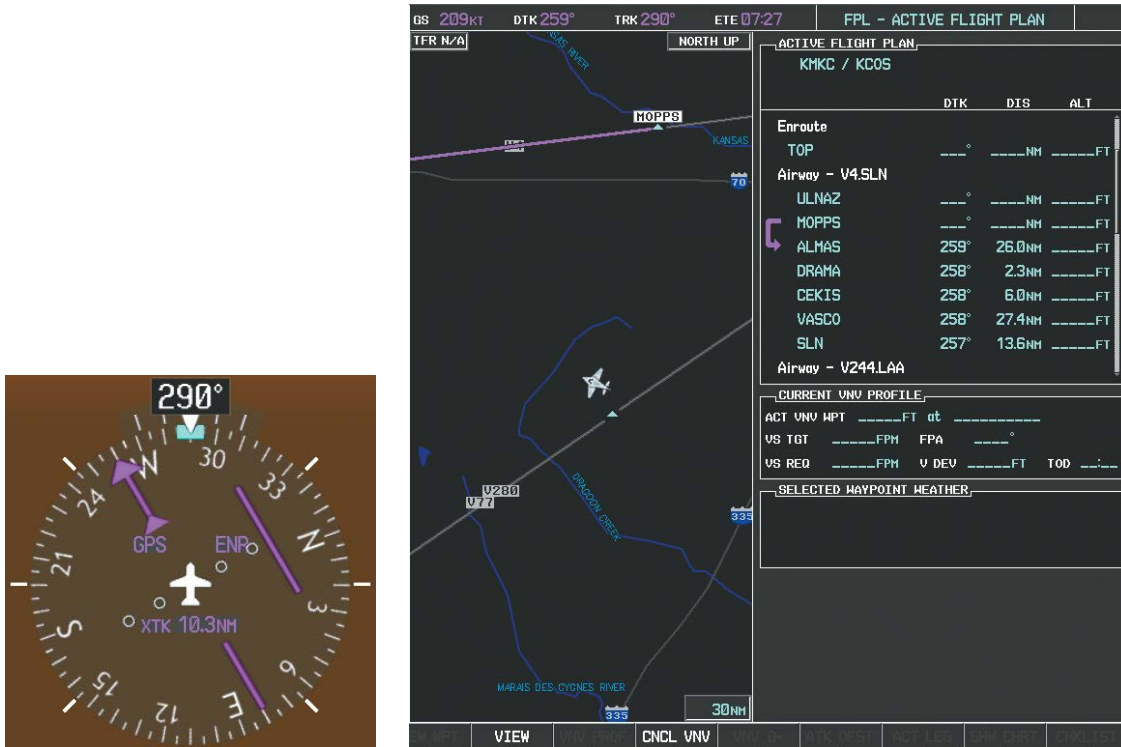

Figure 5-122 V4 Now Active Leg
- d) Verify the displayed leg is the desired leg and press the **ENT** Key. Note in Figure 5-122, the magenta arrow in the flight plan window and magenta line on the map indicating V4 is now the active flight plan leg.